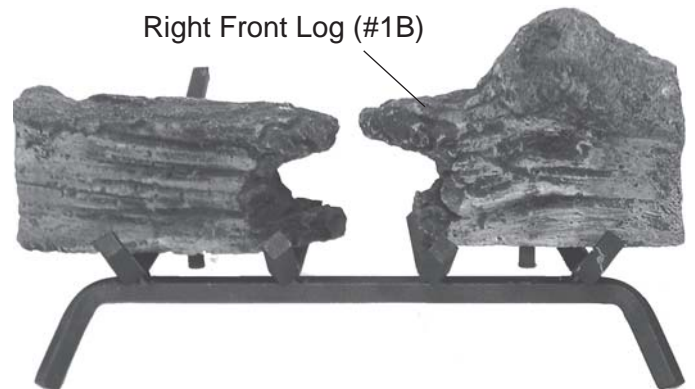

Figure 94 - Placing Right Front Log (#1B) on Grate
3. Place Right Front Log #1B on front right of the grate. *See Figure 94.*